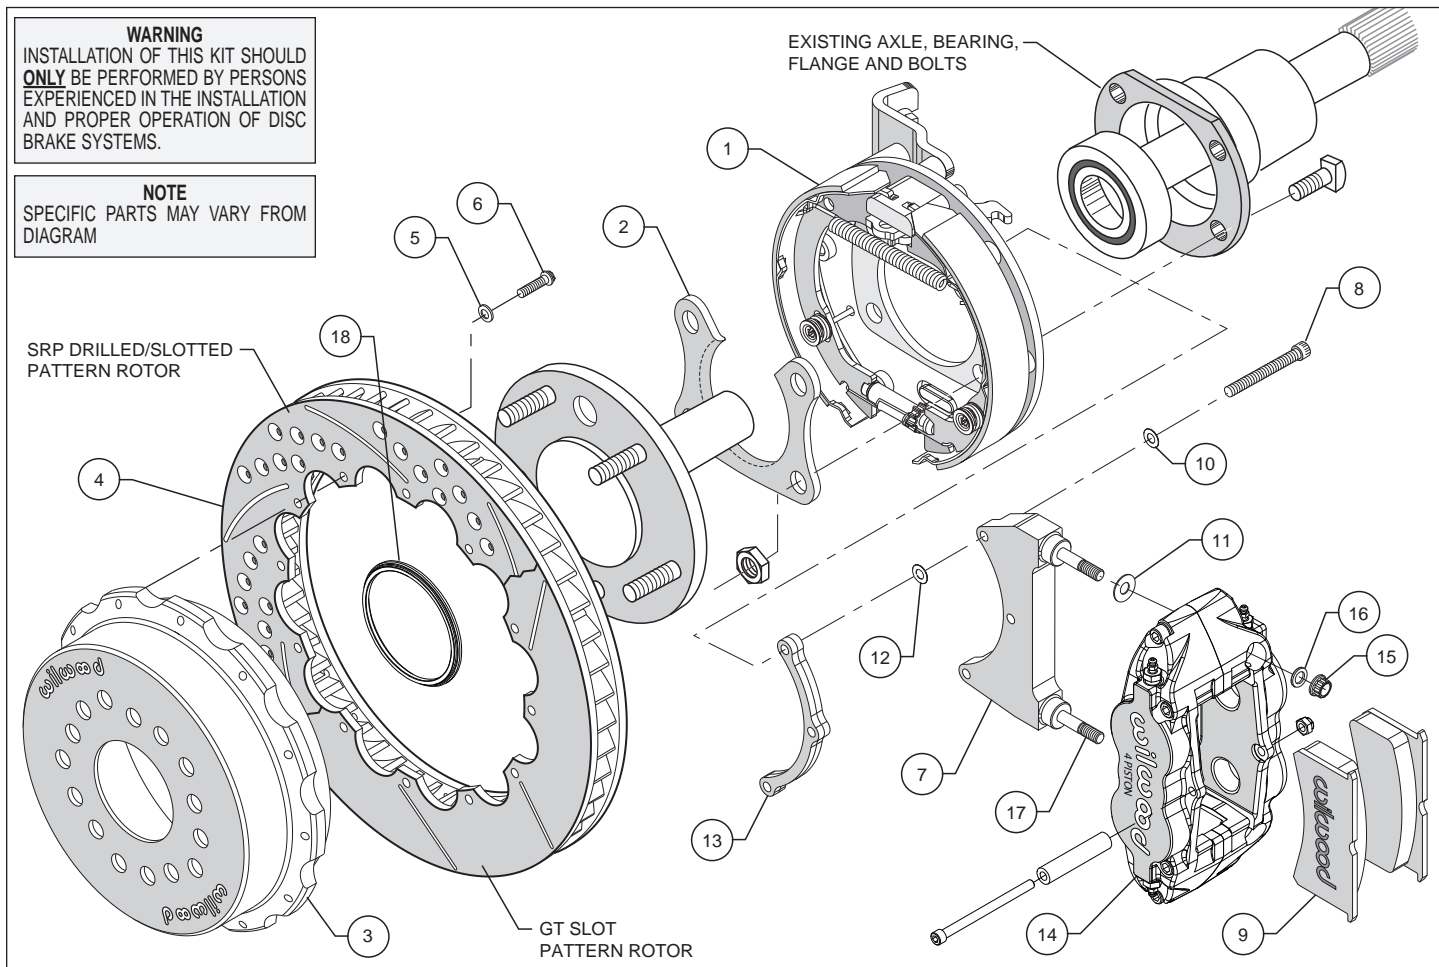

Figure 1. Typical Installation Configuration
- Slide the bracket kit assembly (1) onto the housing flange and then insert the axle assembly through the center hole of the bracket kit assembly (1). Align the bearing retainer (2), as shown in Figures 1 and 4, and secure using the stock Original Equipment Manufacturer (OEM) bolts and nuts. Stock OEM hex nuts that retain the bracket kit assembly (1) and retainer (2) should be on the wheel side of the bracket. Apply red *Loctite*® 271 to the stock OEM bolt threads and torque to OEM specifications. Make sure the bracket kit assembly (1) brake pads are FACING OUTWARD TOWARDS THE WHEEL.
•**NOTE:** Please reference the caution statement at the beginning of the assembly instructions. The caliper mounting bracket assembly (7) should be installed first with clean, dry threads on the mounting bolts (8). Install the bracket from the rear side of the bracket kit assembly (1) by sliding bolt (8) through flat washer (10), bracket (7), shim washer (12) and finally through the spacer (13), see Figure 1. **NOTE:** End of bolt should not exceed inside face of insert. The bracket must tighten squarely against the back side of the bracket kit assembly (1). Inspect for interference from casting irregularities, machining ridges, burrs, etc. Use one thin shim (12) between the bracket (7) and spacer (13) during initial trial fitting.
•Install one shim (11) over each pre-installed stud (17) on the radial mount bracket (7). Slide the caliper (14) in place over the studs and rotor, then install the washer (16) and lock nut (15) to hold the caliper in place. Snug the lock nuts (15) and check that the rotor (4) is centered in the caliper (14). Add or subtract .015" shims (12) as necessary between the caliper mounting bracket (7) and the spacer (13) to center the caliper (14).
•Remove the caliper center bridge pad retainer bolt, nut, and tube from the caliper. Slide the brake pads (9) into place. They should install easily without interference. Check that the outside radius of the brake pad is aligned with the outside diameter radius of the rotor face. Add or subtract shims (11) between the caliper (14) and mount bracket (7) to gain the proper alignment. Reinstall the center bridge pad retainer tube, bolt, and locknut. The locknut should be snug without play in the bolt or tube. Be cautious not to over tighten.
•Adjust the parking brake shoes outward (using a drum shoe adjustment tool available at your local auto parts store) while spinning the hat (3) until a slight drag is felt against the hat/drum. Remove the lug nuts that were holding the hat/rotor in place. Install the wheel and lug nuts. Check to see that the wheel rotates freely without interference.
•Once all clearances have been checked, remove the wheel, caliper, hat/rotor from the bracket kit assembly (1). Secure the caliper mounting bracket (7) to the bracket kit assembly (1) using red *Loctite*[®] 271. Torque bolts (8) to 180 in-lb. Reinstall the hat/rotor assembly and again use lug nuts to hold it in place. Lubricate caliper mounting studs and nuts with lightweight oil, reinstall the caliper, torque the caliper nuts (15) to 30 ft-lb.
•**NOTE:** Clevis and cable kits which attach to the parking brake assembly are not included in the Wilwood parking brake kit. Wilwood offers a generic style parking brake cable kit, P/N 330-9371 for this application which can be ordered separately from your local Wilwood dealer or by calling Wilwood customer service at (805) 388-1188.